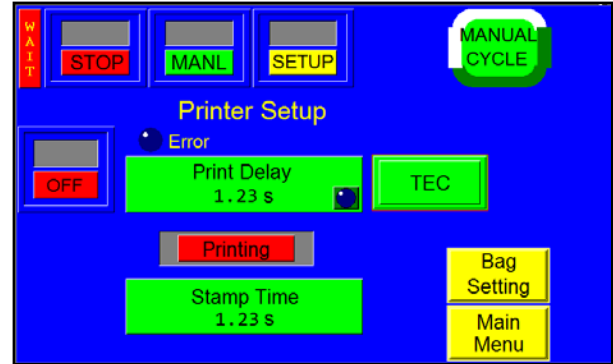

Figure 3-29
The Thermal Inline Transfer Printer - prints text, graphics and bar codes, formatted in a separate software program. The label formats are "downloaded" to the printer from a PC. To enable Printer operation on the Thermal Transfer (TT) Printer, press the highlighted <Printer Ti-1000> button. Toggle <ON> to enable operation of the printer. See Figure 3-29.